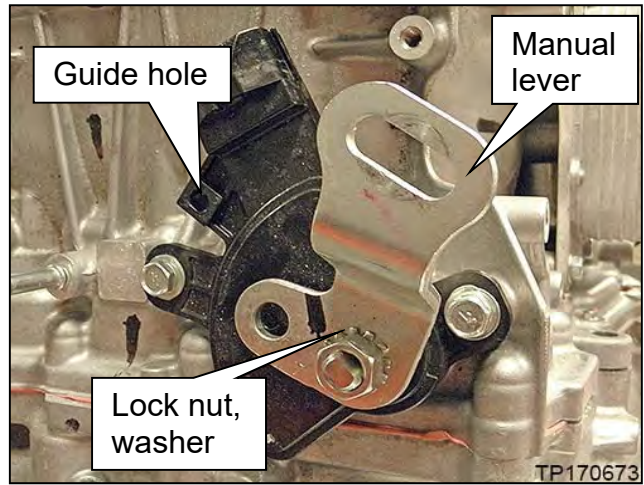

Figure 212
- Alignment pin will insert into guide hole in the transmission range switch (Figure 212).